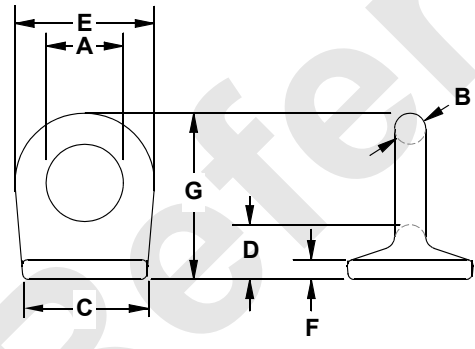

FIGURE 4-43
See Figure 4-43 for the following procedure.
1. Do not exceed approximate capacities listed in Figure 4-43.
2. Make sure rigging line and attaching hardware (clips and rope connectors) are rated for the approximate capacities shown in Figure 4-43.